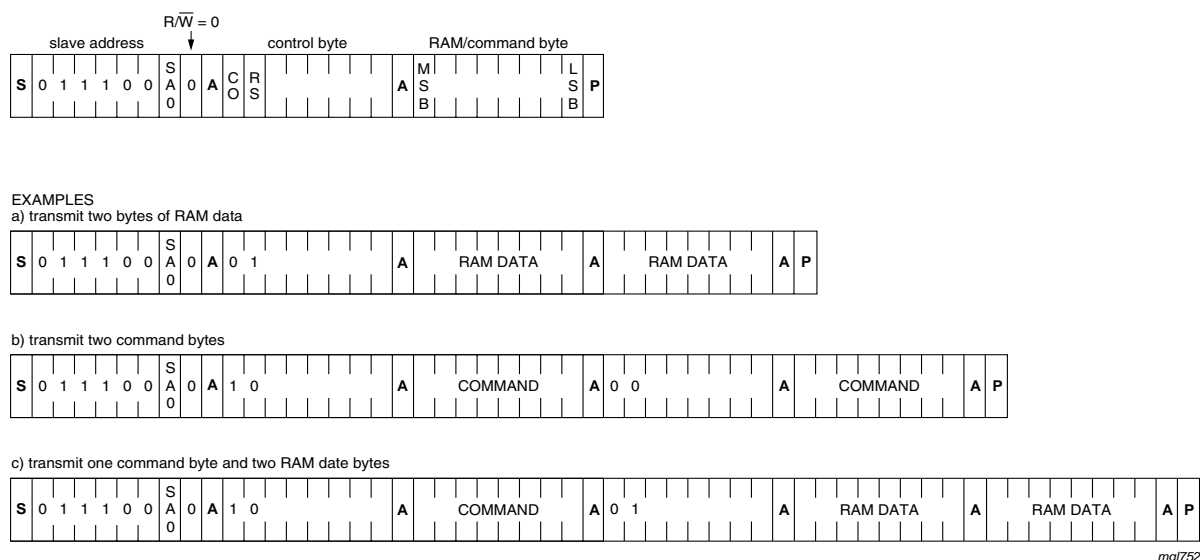

Fig 17. I²C-bus protocol
The I²C-bus protocol is shown in Figure 17. The sequence is initiated with a START condition (S) from the I²C-bus master which is followed by one of the two PCF8532 slave addresses available. All PCF8532 with the corresponding SA0 level acknowledge in parallel to the slave address, but all PCF8532 with the alternative SA0 level ignore the whole I²C-bus transfer.